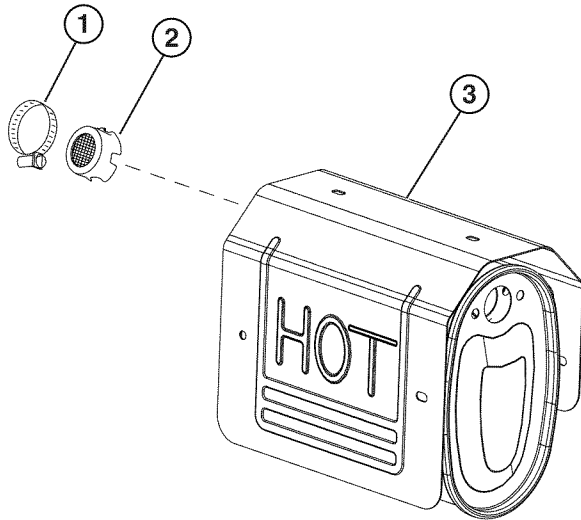

Figure 43 – Spark Arrestor Assembly
3. Using a flathead screwdriver, loosen the spark arrestor band clamp (see Figure 43).